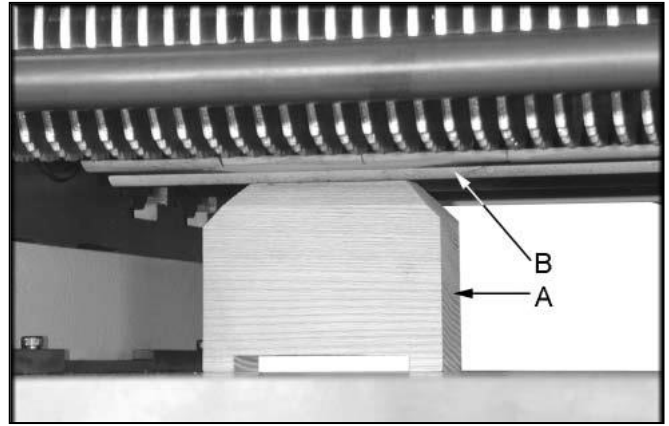
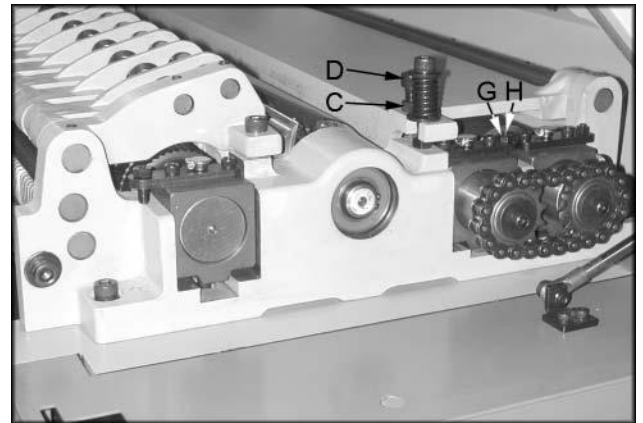
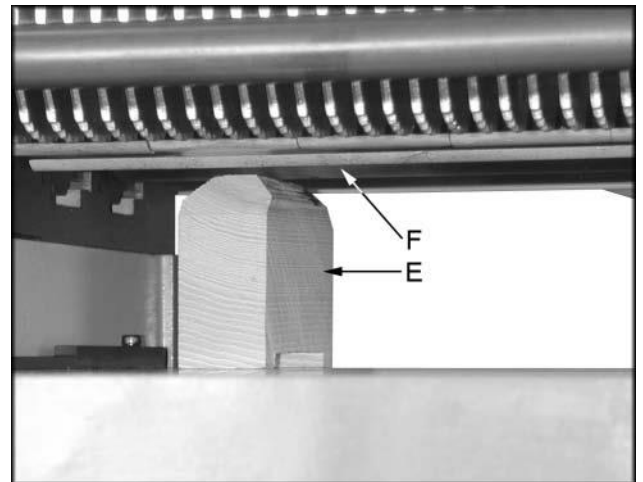

Figure 17
Figure 18
Figure 19
3. Place wood block A, Figure 17) under the left side of pressure bar (B, Figure 17). The top of wood gauge should just contact the pressure bar. If it doesn't, loosen jam nut (C, Figure 18) and turn the adjusting screw (D, Figure 18) to raise, or lower the pressure bar until it contacts wood gauge. Repeat for opposite side of the pressure bar.
3. Remove feeler gauge and place wood block (E, Figure 19) under the left side of out-feed roller (F, Figure 19). The top of wood gauge should just contact the out-feed roller. If it doesn't, loosen jam nut (G, Figure 18) and turn the adjusting screw (H, Figure 18) to raise, or lower the out-feed roller until it contacts wood gauge. Repeat for opposite side of the out-feed roller.